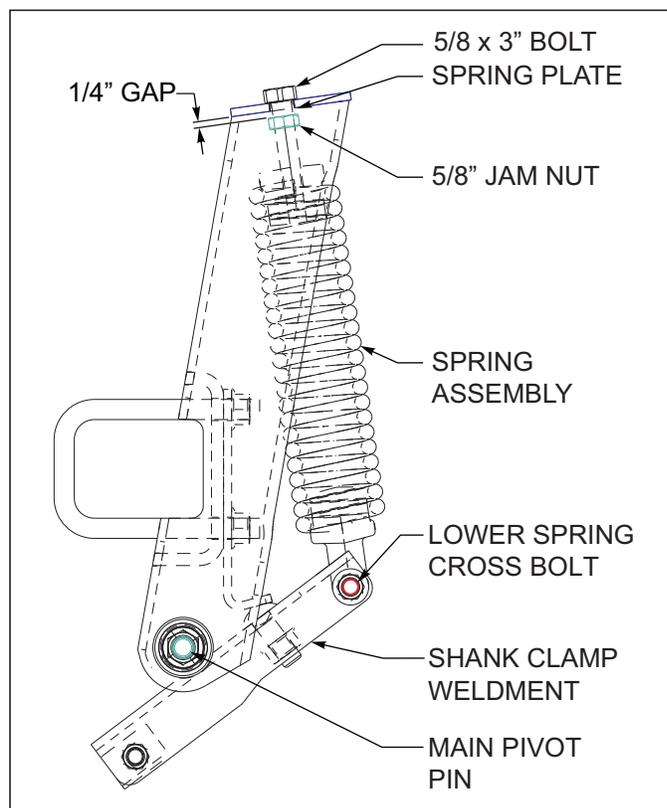

Figure 4-11: Spring Adjustment
3. When adjusting/assembling the spring assembly, tighten the upper spring bolt, but leave approximately 1/4" gap above the spring jam nut See Figure 4-11. This will leave the proper clearance for the spring to pivot. Lock the jam nut against the top of the spring, not the top of the mount. Likewise do not over tighten the lower spring cross bolt. Remove any slack in the bolt, but still allow the lower spring to pivot freely.